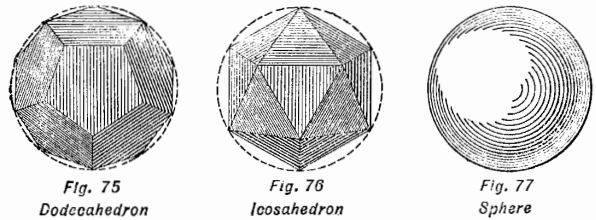

Fig. 75
88. A *Dodecahedron* is bounded by twelve pentagons. Fig. 75.